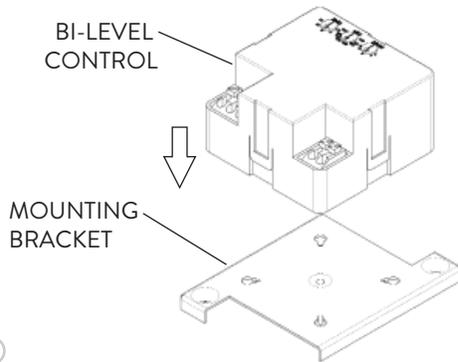

FIG. 16
- The Mounting Bracket is pre-installed and secured to the inside of the FSWA fixture. The Bi-Level Occupancy Control fits directly on the Mounting Bracket (Fig. 16).